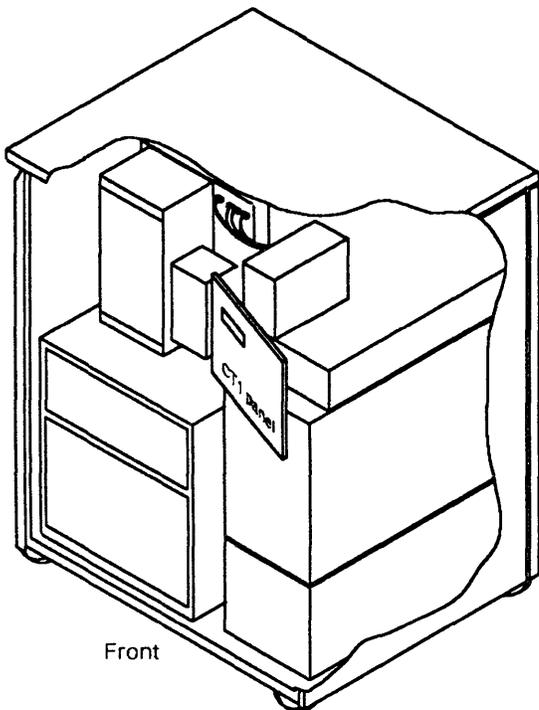

Figure 4-62. Panel Location
1. Locate the control panel. Refer to Figure 4-62.